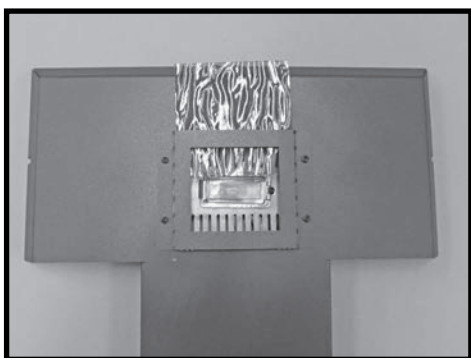

Fig. 60: A glass plate before insertion.
3. A new glass plate slips into position as shown in Fig: 60 and 61.